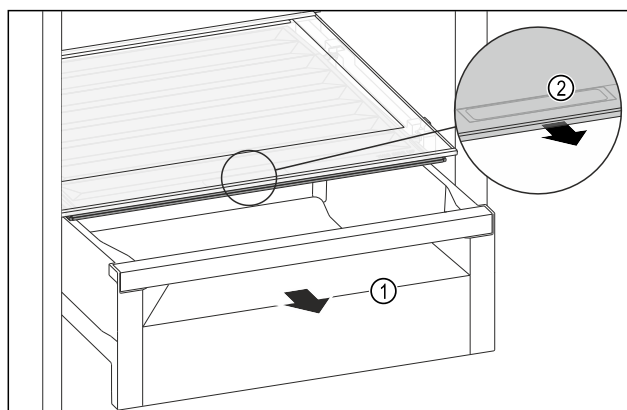

Fig. 200
- Pull out the drawer Fig. 200 (1).
- Grasp the recessed grip Fig. 200 (2) on the compartment lid and pull the compartment lid forwards at the same time.